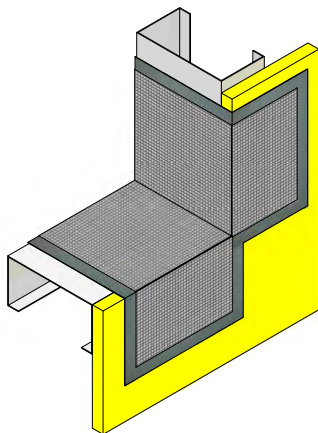

Figure 6
2. Cut Sheathing Fabric to desired size. Place the Sheathing Fabric into the wet Senershield-R/-RS/-VB. (See Figure 6)